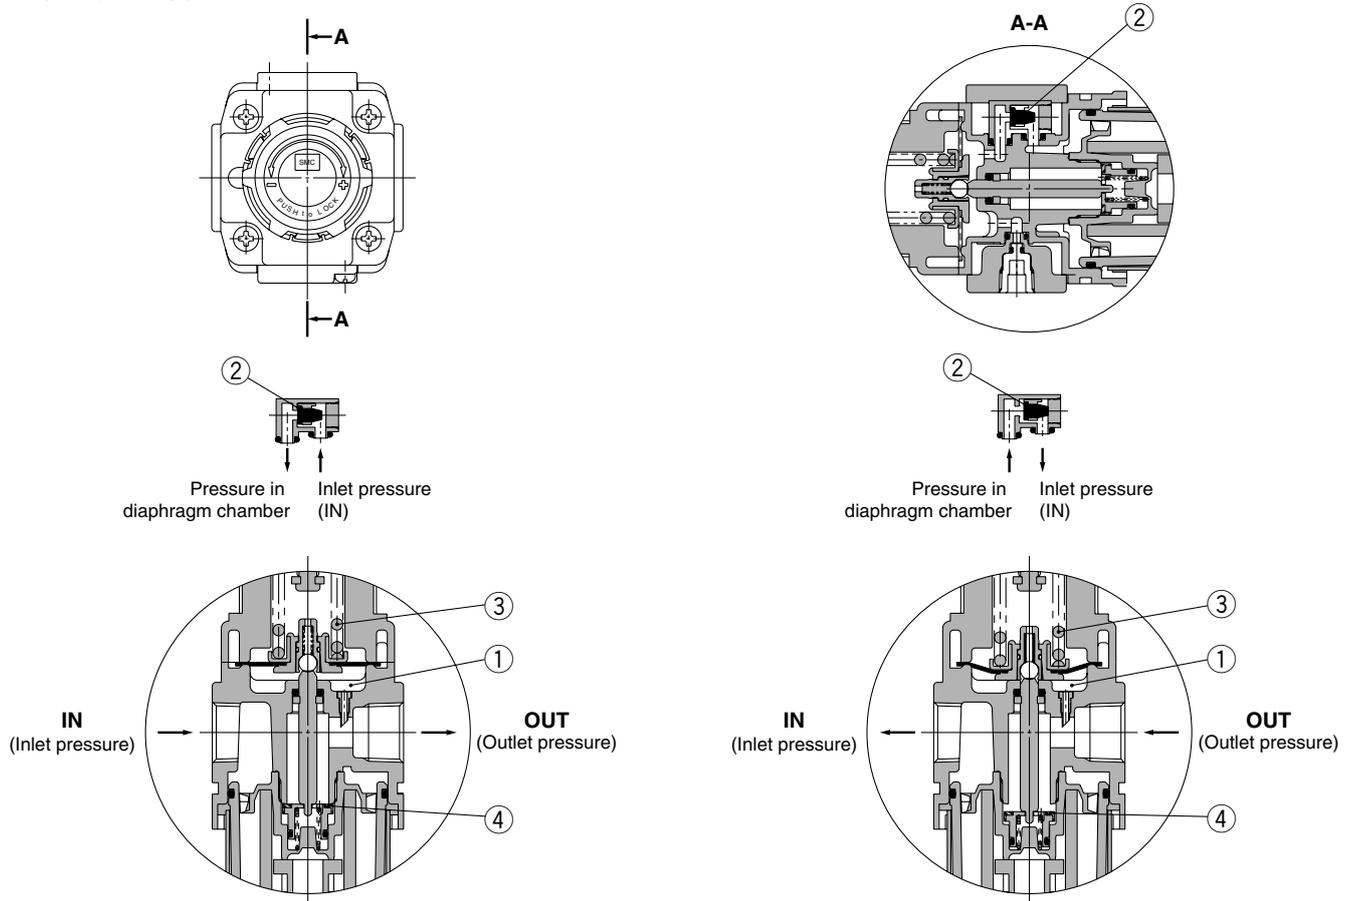

Figure 1 Normal
When the inlet pressure is higher than the regulating pressure, the check valve operates as a normal regulator (Figure 1).
When the inlet pressure is higher than the regulating pressure, the check valve ② closes and operates as a normal regulator (Figure 1).